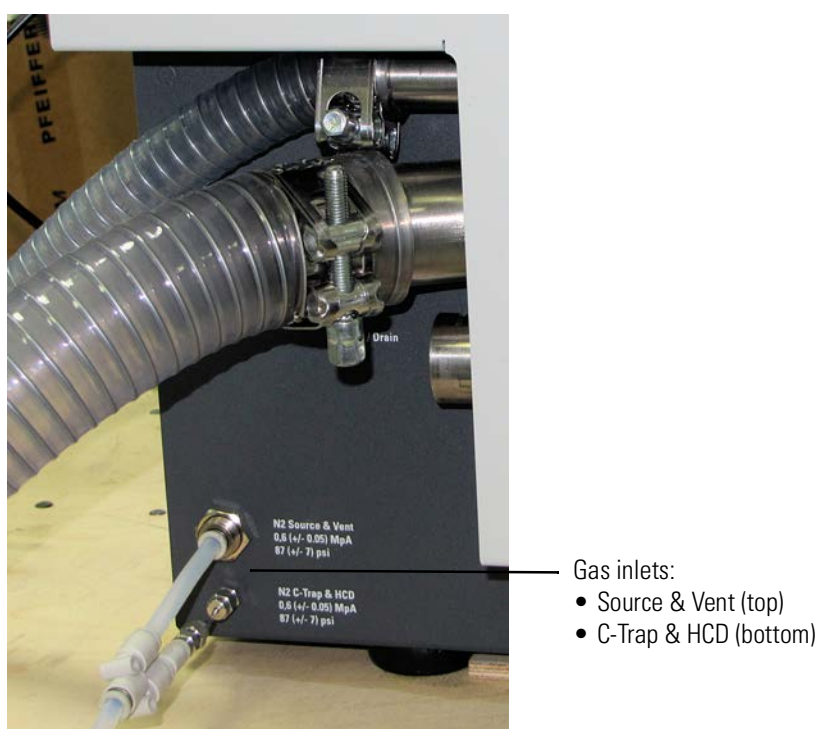

Figure 5-7. Gas connections at the left instrument side
The gas inlet ports are at the left side of the instrument. See Figure 5-7. The port for source gas & vent gas (top) has a press-in fitting for a 6 mm hose. The port for C-Trap gas & HCD collision gas (bottom) has a Swagelok™-type fitting for 1/16 in. tubing.
You can supply the nitrogen for your instrument from one source (single supply) or two sources (dual supply). See Table 5-9 for an overview. Figure 5-7 shows an instrument that is completely supplied with
2. Insert the opposite end of the Teflon hose into the press-in fitting of the Y-piece that is attached to the gas ports at the left side of the instrument. See Figure 5-7. To connect the hose, align the Teflon hose with the opening in the fitting and firmly push the hose into the fitting until the hose is secure.